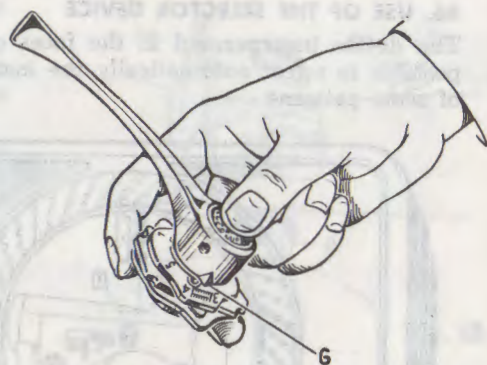

Fig. 67
- Press cam-group as shown on Fig. 67 and bring index « G » in correspondence with the desired buttonhole.